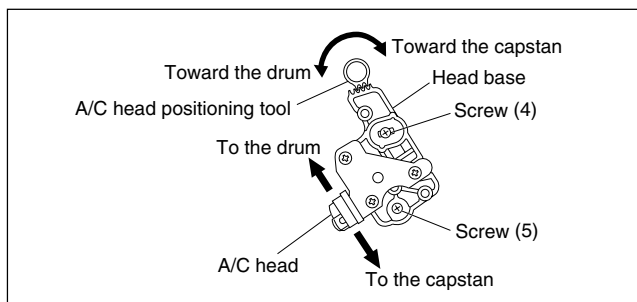

Fig. 2-3-3a
- (1) Play back the alignment tape (A1).
- (2) Apply the external trigger signal to D.FF (E), to observe the V.PB FM waveform at the measuring point (D).
- (3) Set the VCR to the manual tracking mode.
- (4) Loosen the screws (4) and (5), then set the A/C head positioning tool to the innermost projected part of the A/C head. (See Fig. 2-3-3a.)
- (5) Turn the A/C head positioning tool fully toward the capstan. Then turn it back gradually toward the drum and stop on the second peak point position of the V.PB FM waveform output level. Then tighten the screws (4) and (5).
- (6) Perform the tracking operation and make sure that the V.PB FM waveform is at its maximum. If it is not at maximum, loosen the screws (4) and (5), and turn the A/C head positioning tool to bring the A/C head to a position, around where the waveform reaches its maximum for the first time. Then tighten the screws (4) and (5).